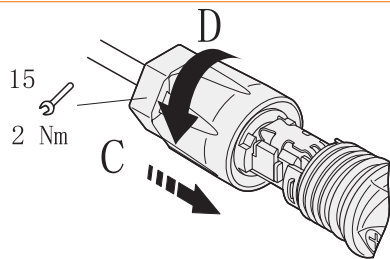

Figure 5-19
⑤ Push the battery connector to the thread joint, and use an open wrench to lock the connector in a torsion of 2Nm tightly, as shown in Figure 5-19: